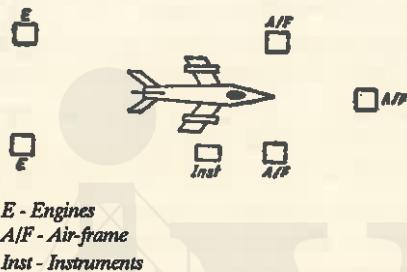

Fig. 4.4. Layout by fixed position of products.
- Layout by fixed position of the product is inherent in ship building, aircraft manufacture (Fig. 4.4) and big pressure vessels fabrication.